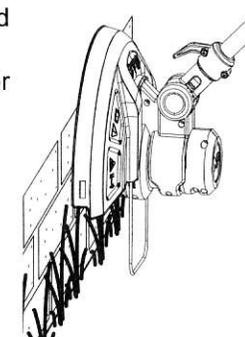

Fig. 18
1. Make sure that the knife protector (11d) is removed and the plant protector (13) is pulled out before operation.
2. Adjust the main handle (1) angle to 90° or 180° for edging (Fig. 18).